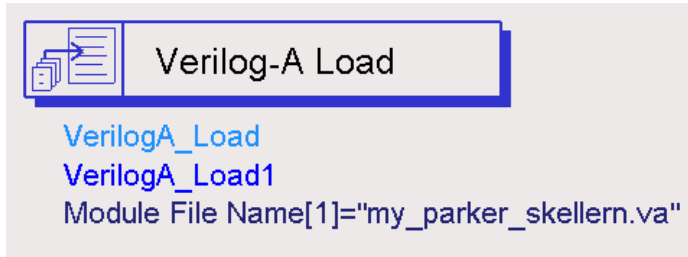

Figure 2-1. The VerilogA_Load Component
2. Use the *Edit Parameters* dialog box to add the name of the file to the Module File Name parameter. Note that this parameter is repeatable to enable multiple files to be loaded. The component should look similar to Figure 2-1.